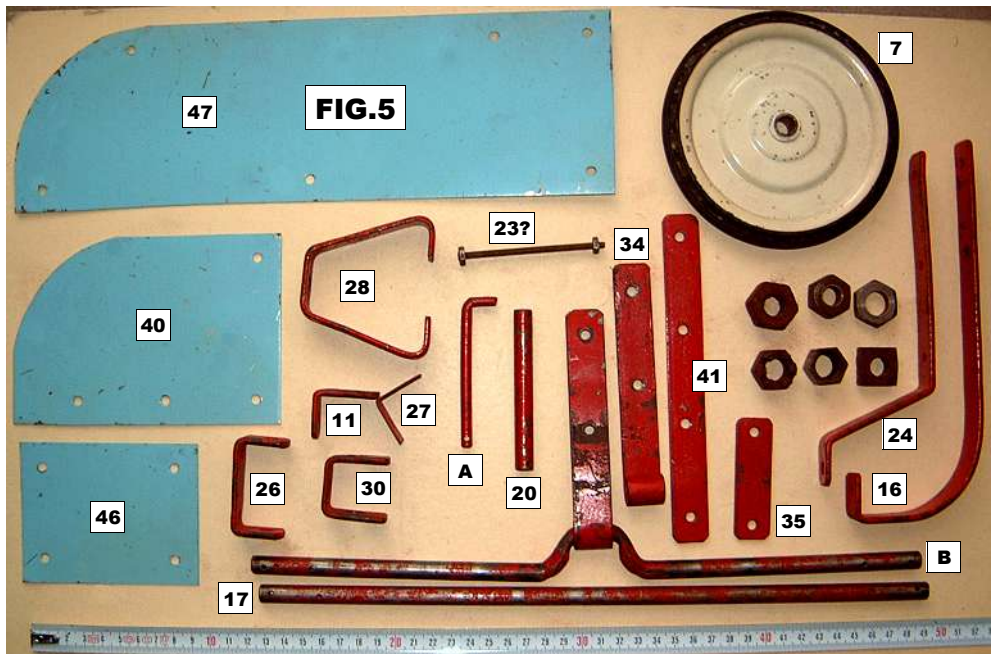

FIG.6
- **Pivot Axle** N-22, see Fig.6 & #7 in Fig.3, 25mm long with 5mm end spigots. {1}
52mm wide [7mm lug holes for a 6mm Axle]. {1} • **Erector Angle** N-27. Each face is 25*25mm & 1.0mm thick with a 6.5*4.5mm oval hole. [Nickelled.] {12} • **Universal Bracket** N-28 72mm across the base & 38mm across the top {7} • **Lock Collar** N-29 (Fig.6), like a larger ERECTOR P37 Collar. The side holes are 10.5mm Ø & the middle threaded hole 4.5mm. [The Set Screw is 6mm Ø, & 1mm pitch.] {3} • **Bearing Bracket** N-30, with an 11mm hole on each side & a 7mm in the middle. {4} • **Upper Universal Joint** N-31 [*] (see #7 in Fig.3) with 5 sections 2,6,8,5,2cm long, one 7mm hole at each end & 2x 5mm holes in the 8cm section. {1} • **Loop Bracket** N-34, length 12.5cm. {6} • **Tie Bar** N-35 [*], a 2-hole Strip. {2} • **Splice Strap** N-41, a 4-hole Strip {6 [8]} • **Short Metal Side** N-40, 150*102mm. {4} • **Corner Piece** N-46, 101*76mm. {1 [2]} • **Long Metal Side** N-47, 330*102mm, 6 holes at various pitches. {2}
Fixings All the Bolts & Split Pins (N-37) are missing. Various sized nuts were found including 8 hexagonal, 21mm A/F with a threaded hole 10mm Ø, but some or all may be foreigners. Also 2 nickeled bolts, length 75mm, 4.0mm Ø, with hexagonal nuts. [The Fixings needed are Bolts, Long & Short, with Nuts: thread: 5mm Ø x .9mm pitch (a pre-ISO French standard – Ed); Washers; Split Pins; & 5mm Wood Screws. A **Spanner** is shown in Fig.6.]